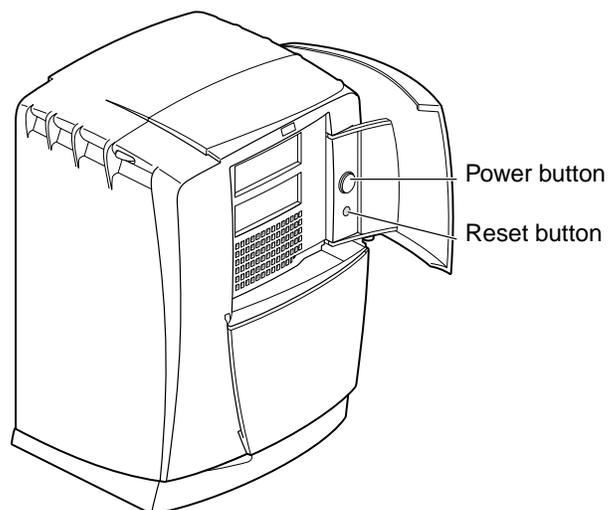

Figure 8-12 Power Button and Reset Button
1. Press the power button again (see Figure 8-12).